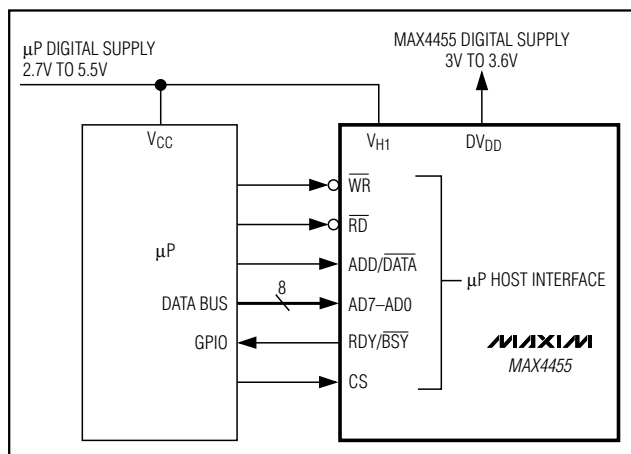

Figure 4. μ P Host Interface
The MAX4455 μP interface includes a byte-wide address/data bus (AD7–AD0) for parallel programming of the MAX4455, write strobe input (\overline{WR}), read strobe input (\overline{RD}), active-high chip-select input (CS), address or data-select input (ADDR/ \overline{DATA}), and a ready/busy hand-shaking output (RDY/ \overline{BSY}) (Figures 4 and 5). The MAX4455 allows for interfacing to a μP powered from a different supply than the MAX4455 by connecting V_{H1} to the μP supply. For example, the MAX4455 can be operated with a single 3.3V supply, while the μP interface can be operated with 3.3V or 5V logic levels by connecting V_{H1} to the μP power supply.